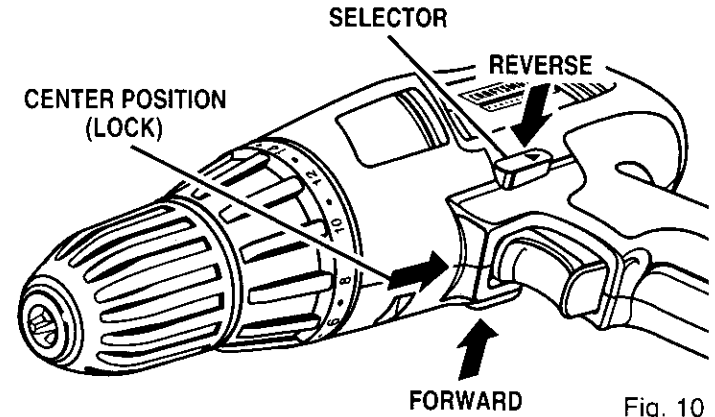

Fig. 10
- Lock the switch trigger by placing the direction of rotation selector in center position. See Figure 10.
- Depress latch located on front of battery pack (1) to release battery pack.
- Pull forward on battery pack (2) to remove from drill.
See Figure 10.